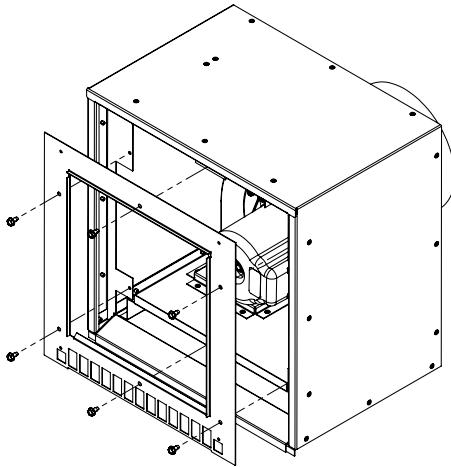

Figure 16: Mid plate removal
2. Remove the power vent mid plate by removing the six (6) #10-24 bolts using a 5/16" nut driver. See Figure 16.